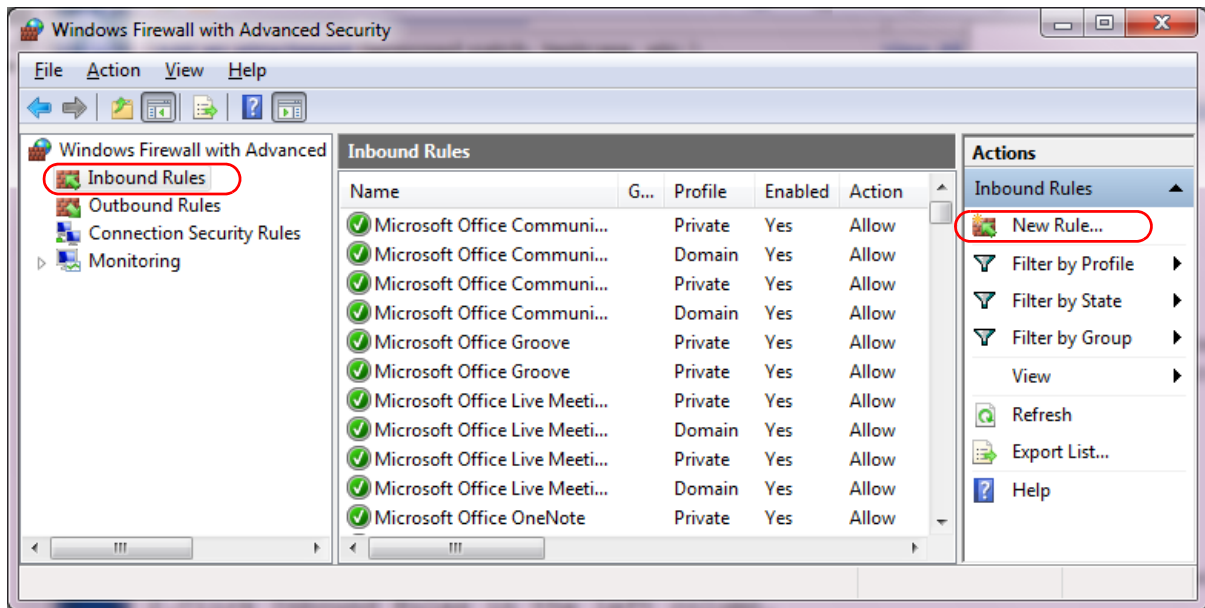

Figure 3-1: Creating a new inbound rule
- 3 Select **Inbound Rules**, then select **New Rule**, as shown in Figure 3-1.